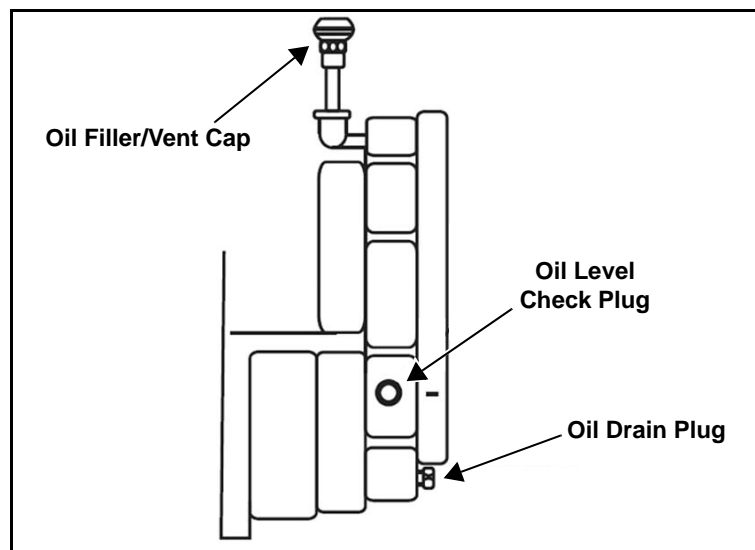

Figure 4-1. Gearbox Oil Servicing Points
2. Remove the oil level check plug. See Figure 4-1.